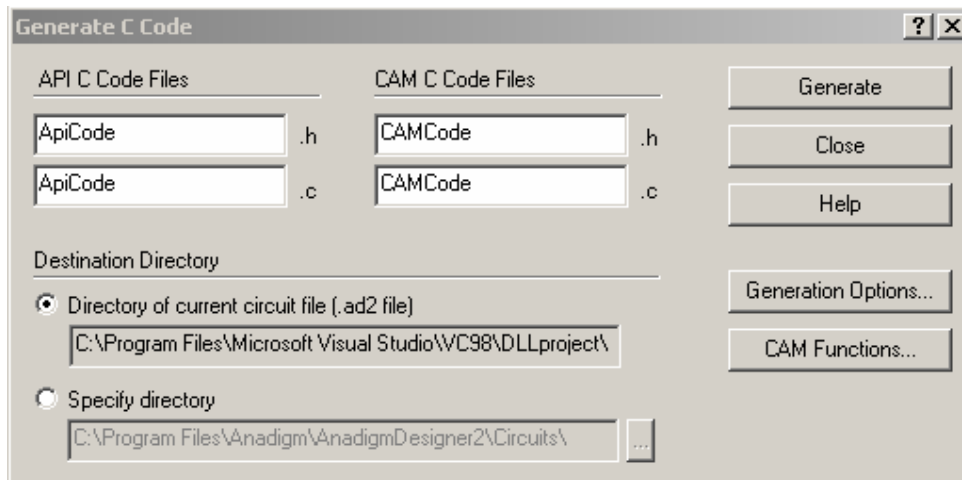

Figure 5: Generating C-code from AD2
- Go to Dynamic Config./Algorithmic method... in the AD2 menus to get the window shown in figure 5.
8. Click on “OK” and then click on “Generate”. Note from figure 5 that the C files get generated into the Visual C++ working directory because we chose to save the AD2 circuit there. If the AD2 circuit is not saved in the project area, then select “Specify directory” in the window shown in figure 5 and browse to the VC++ DLLProject area.